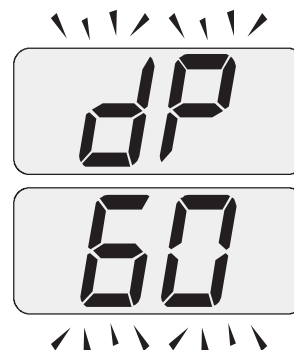

Figure 11.9
- 21 Press further key G to vary again the output in chimney sweep mode: when the display shows the letters dP that alternate with the heating water temperature value (e.g.60), the "chimney sweep function" is at maximum output in domestic hot water mode" (Figure 11.9);